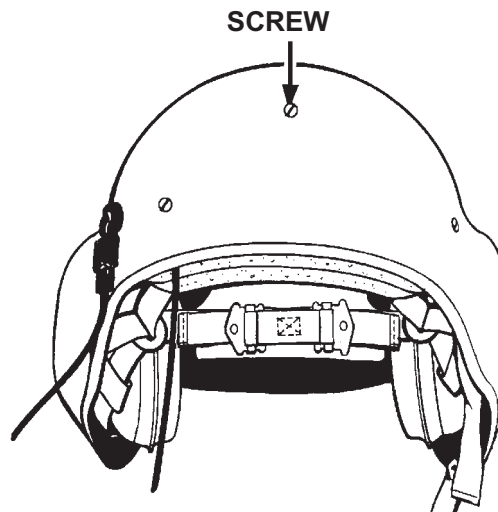

Figure 4-4. Rear Retention Screw
3. Referring to Figure 4-4, remove the pan-head screw, spring washer, and post fastening the retention assembly to the center rear of the helmet shell. Retain the screw, washer, and post for reassembly.